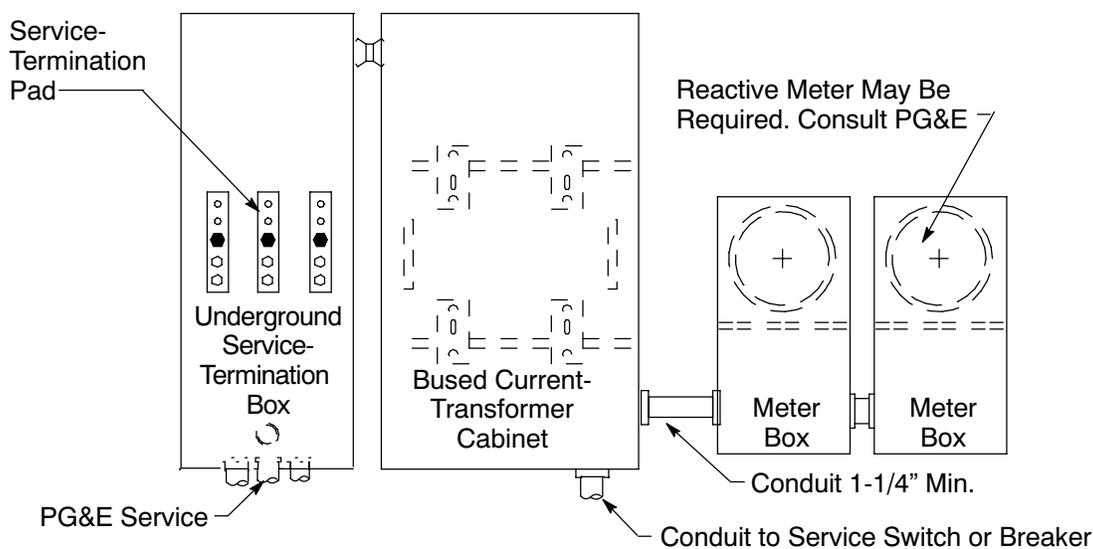

Figure 7-4
1. When applicants meter a single, underground, commercial or industrial service using current transformers, they must furnish, install, own, and maintain underground, service-termination pull boxes with separate, current-transformer cabinets and meter boxes, as illustrated in Figure 7-4, “Separate-Bused Current-Transformer Cabinet and Meter Box With Underground Service-Termination Pull Box (401 Amperes Through 800 Amperes),” on Page 7-7.